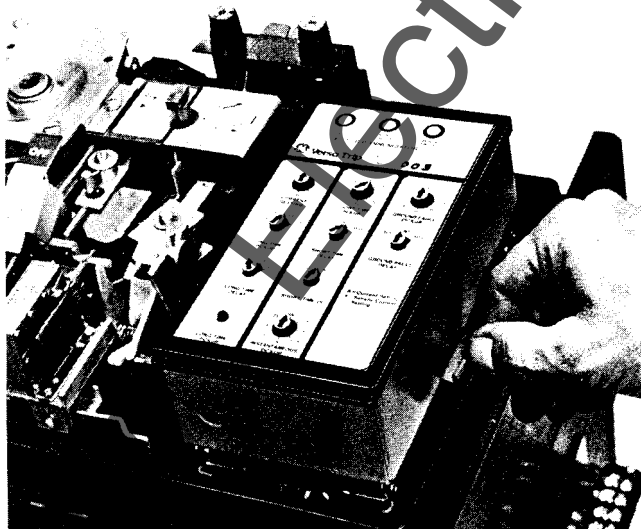

FIG. 14
1. Remove the (4) cover mounting screws and remove the top cover. On MOM breakers, remove only the top cover to replace/change the programmer.
- a) Push in programmer cover interlock (See Fig. 14).
- b) Push in the programmer cover-interlock until it locks in place (See Fig. 14).